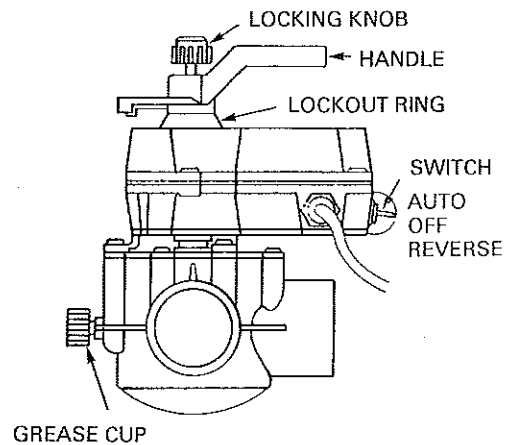

Fig. 14
3. **Valve seals must be lubricated at least four times a year.** To grease the seal, rotate handle, using either manual method (described below), so that the word **OFF** on handle is directly above the word **grease** on valve. See Fig. 14. Next, turn black grease cup clockwise until resistance is felt. Wait a few seconds, then turn cup a half turn further. Repeat this two more times. Next, move handle back and forth to spread grease onto the seal. Last, restore actuator to **AUTO** position.
STEP 3: Observe the rotation of valves. They should be turning to pool circulation. If one or both rotate to spa circulation, move the toggle switch at rear of valve to **REVERSE** and change label to **REVERSE-OFF-AUTO** (white) See Fig. 14.